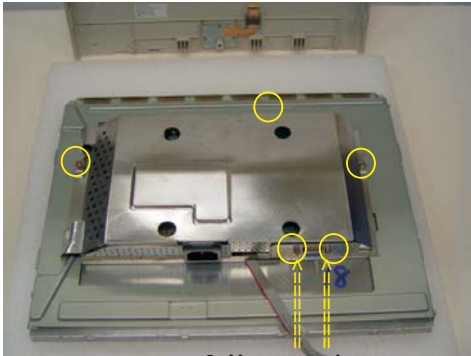

Fig.8
- Remove the three screws as shown in Fig. 8 .
- Disconnect DVI and D-SUB hexagonal screws as shown in Fig. 8.